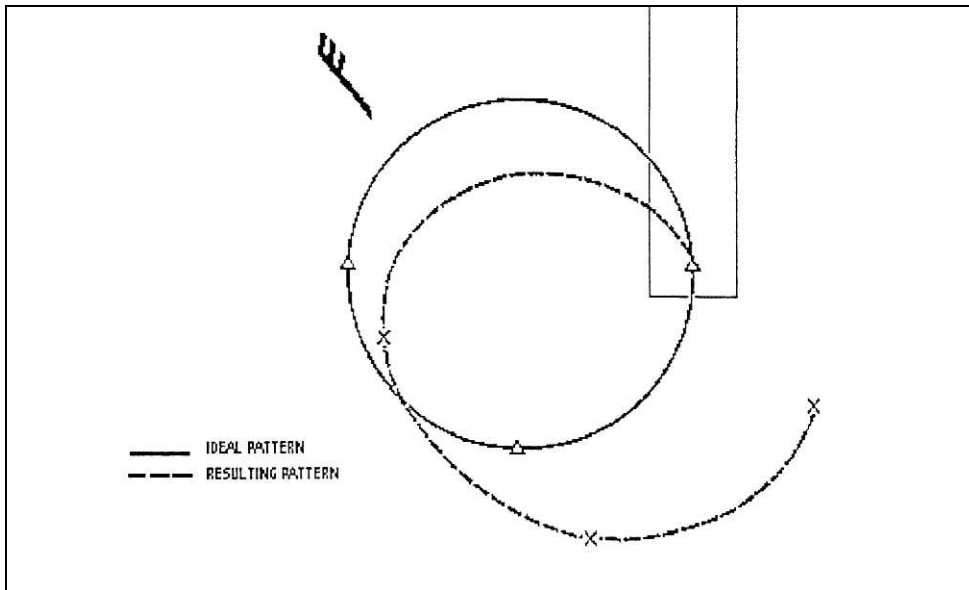

Figure 7-2 Effects of a Strong Wind
4. The Effect of Wind on the Pattern. The forced landing pattern is designed to be circular under zero wind conditions. A strong wind has considerable effect on the aircraft's ground track, and the pattern will be shifted downwind, as shown in Figure 7-2, unless there is some compensation for wind.